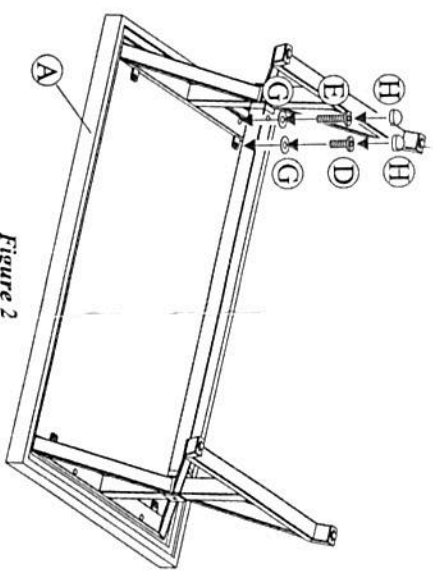

Figure 2
**Step 3:** Place the table top upside down on a flat, non-abrasive surface. Attach a table leg to the table top by using two 1/4"x20 mm bolt, two 1/4"x30 mm bolts, and four Ø20xØ6.5x2.0 mm washers as shown in *Figure 2*. Guide the bolts through the holes in the table leg into the pre-drilled holes in the table top. **Hand tighten only 2-3 turns.** Repeat for the other leg.